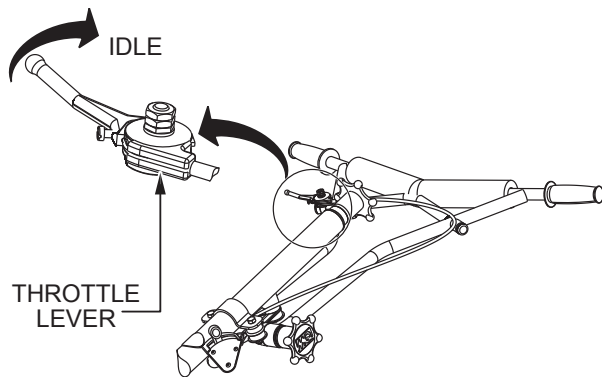

Figure 39. Throttle Lever (Idle)
1. Return the throttle lever to the **IDLE** position (Figure 39) and let the engine run for three minutes at low speed.